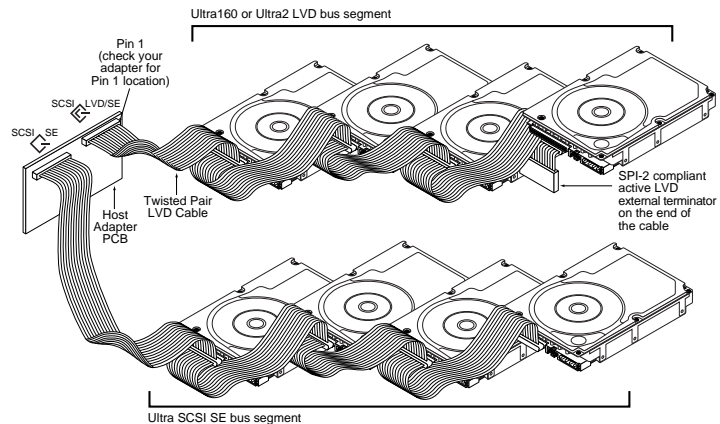

Figure 3. Cable connections and external termination
**Note.** Some LVD host adapters provide an LVD connector and an SE connector on the same host adapter to allow you to run SE and LVD drives concurrently at their maximum capabilities. Check your SCSI host adapter documentation. See Figure 3.
If you are installing the drive in a system that has other SCSI devices installed, terminate only the end devices on the SCSI bus (cable). This drive does not have internal terminators or any other way of adding internal termination on the drive. You must provide external termination when termination is required. This is normally done by adding an inline terminator on the end of the cable. See Figure 3 for an illustration showing a system configuration that uses an external terminator.
- Connect the DC power cable to the drive. See Figure 3.